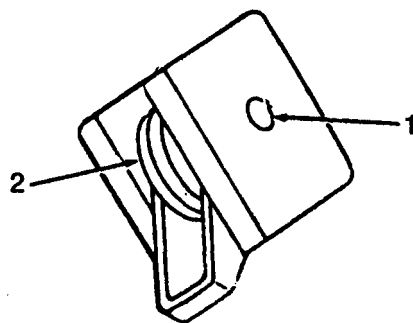

Figure 3-2. Tackle Block, Lubrication.
b. Tackle Block (Figure 3-2)
- (1) Apply a coat of general purpose oil to pin (1).
- (2) Apply a coat of general purpose oil to sheave (2).